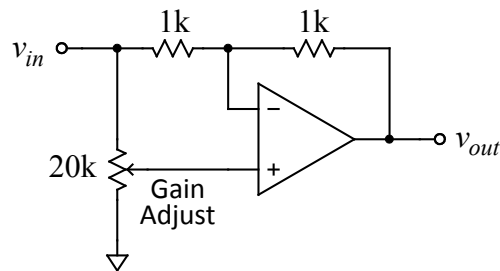

Figure 1-25: How does the gain of this circuit vary as the potentiometer is adjusted?
6. Consider the circuit below (Figure 1-25), which you will construct and evaluate during lab. What is the the circuit's gain (v_{out}/v_{in}) when the *gain adjust* potentiometer's wiper is set to the top end of its resistance element? Set to the bottom end? Centered?
Construct the circuit presented in Figure 1-25 on page 1-29 (Prelab exercise 6). Use the 20k potentiometer included with your parts kit. The potentiometer may be installed in the breadboard area of the circuit trainer — your TA or the laboratory instructor can show you how to properly connect it. How does the circuit gain vary as you adjust the wiper position? Does it behave as you predicted in your answers to the prelab problem?